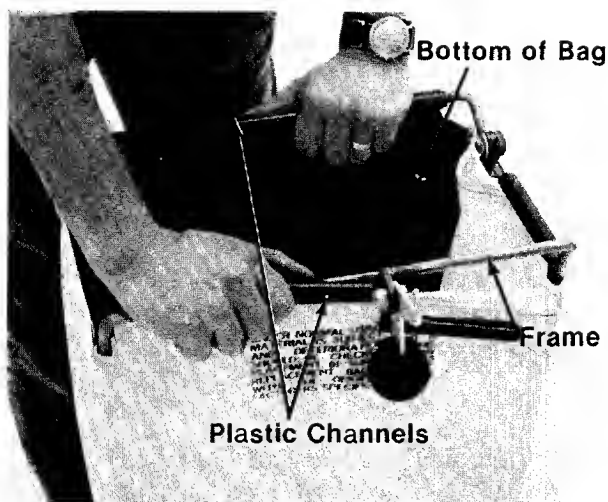

FIGURE 11.
4. Secure bag to frame by slipping plastic channels on bag over frame. See figure 11.